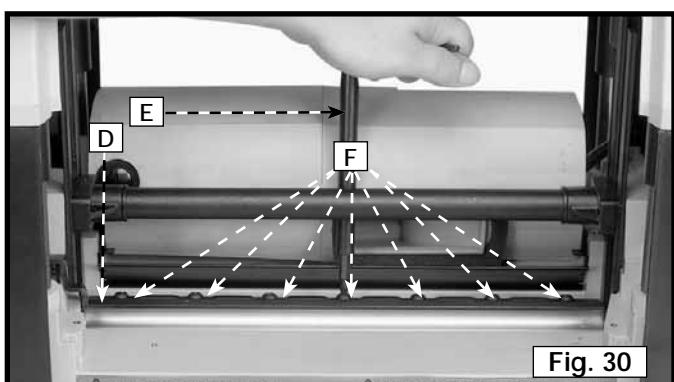

Fig. 30
6. Use the wrench (E) Fig. 30 to loosen the seven screws (F) enough to allow the locking bar (D) to separate from the knife.